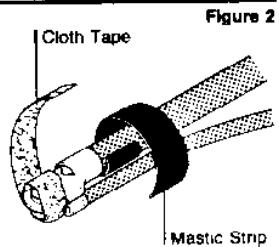

Figure 2
- 2.** Wrap the bolt area with a cloth tape strip to cover sharp edges (Figure 2).
- 3.** Remove release papers from mastic strip. Insert one end between the leads of one phase just beyond the end of the lug barrel (Figure 2).